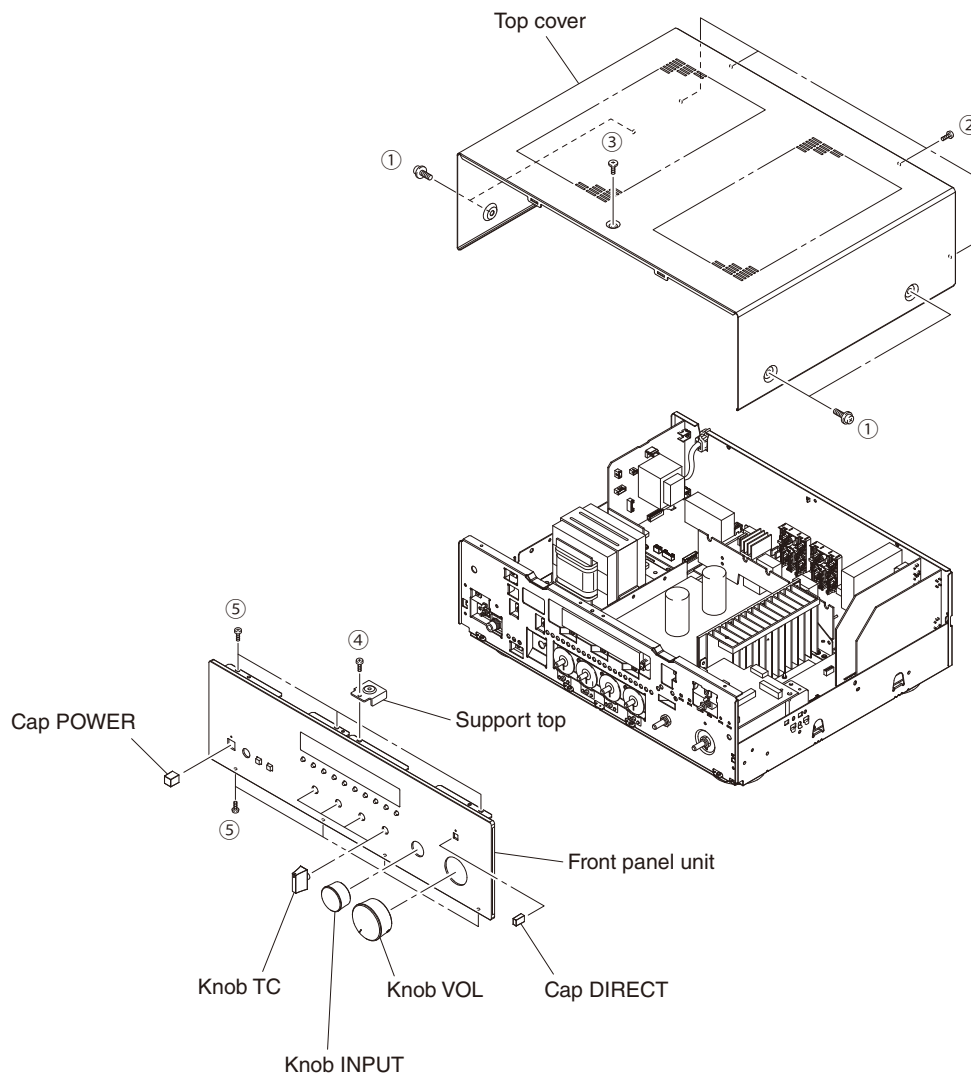

Fig. 1
- Remove 4 screws (①), 4 screws (②) and screw (③). (Fig. 1)
- Remove the top cover. (Fig. 1)
- Remove screw (④) and then remove the support top. (Fig. 1)
- Pull out the knobs and caps. (Fig. 1)
- Remove 7 screws (⑤). (Fig. 1)
- Remove the front panel unit. (Fig. 1)